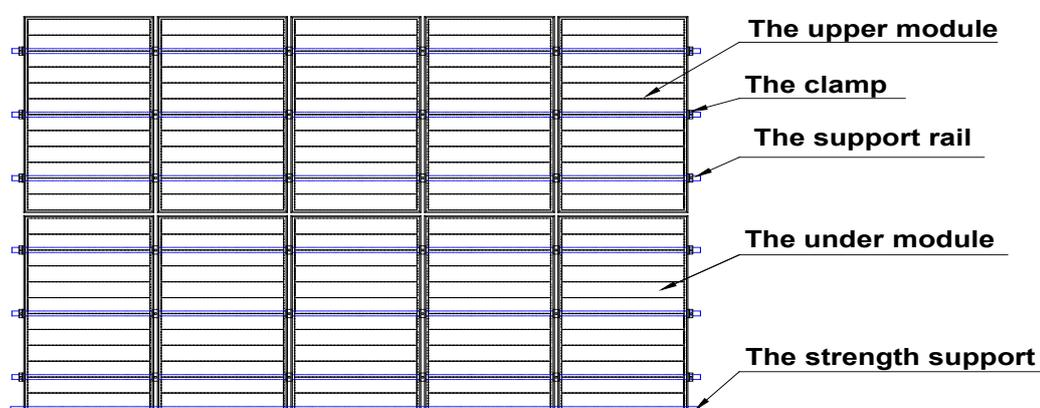

Figure 3 Schematic diagram of reinforcement mounting of module
**6.2.1.3** For the roof system installed in the area with relatively heavy snowfall or snow cover in the meteorological records, the installer shall reinforce the supporting system at the lower frame of the module, in order to prevent the lower frame from being pressed and damaged by the falling snow or freezing of the melted snow. Eco Delta suggests selecting the support reinforcing mechanism shown in figure 3.